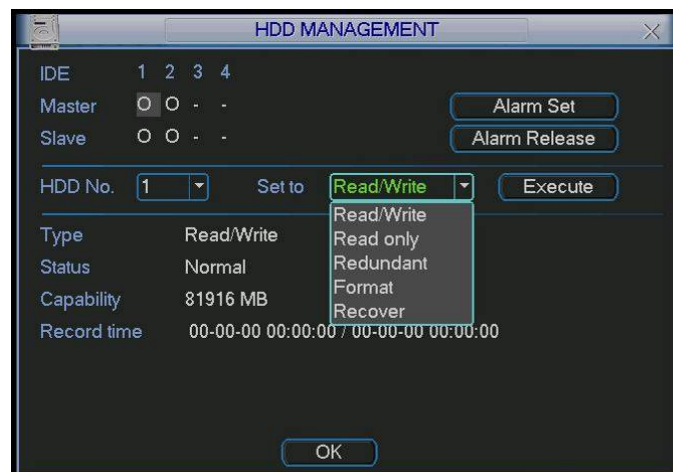

Figure 3-13
In the main menu, from Advanced to HDD management, you can set one or more disk(s) as redundant. You can select from the dropdown list. See Figure 3-13.
- Set redundant disk(s) as read-only disk or read-write disk (Main menu->Advanced->HDD management). See Figure 3-13. System needs to reboot to get setup activated. Now you can search or playback file in redundant disk.